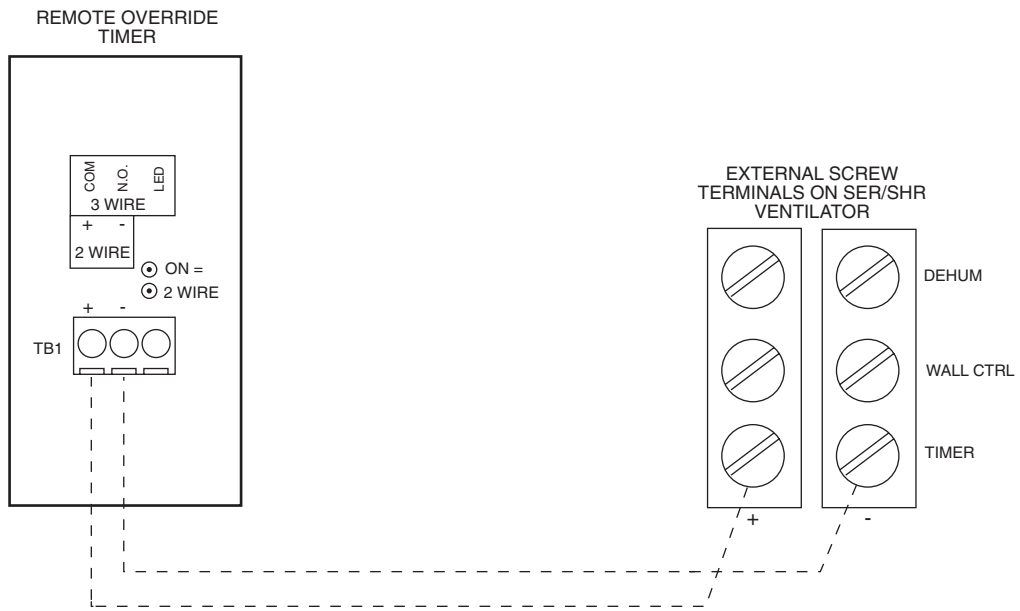

Fig. 2 — Remote Override Timer Wiring
3. Connect wire to the TIMER + and - terminals on ventilator. See Fig. 2.
6. The RTS2 timer consists of two pieces, a mounting plate and the cover. Connect wiring to the + and - terminals on the mounting plate of the RTS2 timer. Observe polarity. Make sure the + and - terminals on the ventilator are wired to the + and - terminals of the remote override timer. See Fig. 2.